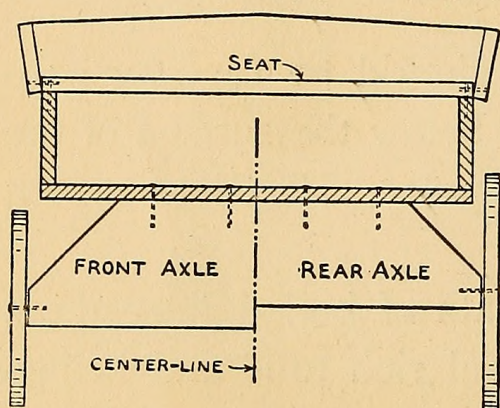

FIG. 227. — Cross-section of the Express-wagon.
**The Express-wagon** shown in Fig. 223 is made out of a long flat box. Cut down the sides at the front and construct a seat on top of the sides as shown in Fig. 227. Cut the front wheels about  $2\frac{1}{4}$  inches in diameter and the rear wheels about  $2\frac{3}{4}$  inches in diameter. If you haven't a compass with which to describe the circles,
you can mark out the wheels with cups or glass tumblers. Cut the wooden axles as shown in Fig. 227, making the front axle—for the smaller wheels—deeper than the rear one, then fasten them to the wagon and nail the wheels to their ends. Drive a tack into the